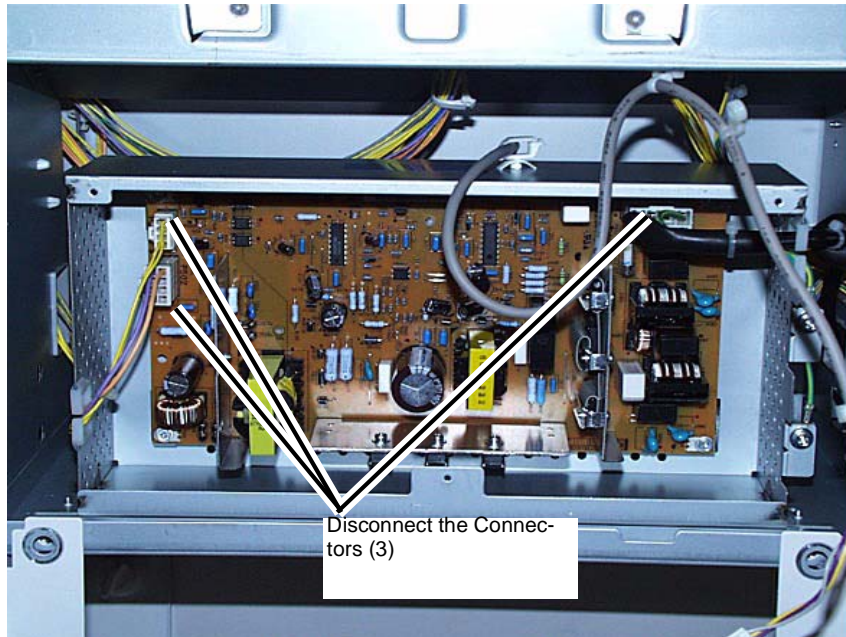

Figure 9 Disconnecting the Connectors (3)
- Disconnect the connectors (3) from the Power Supply. (Figure 9)